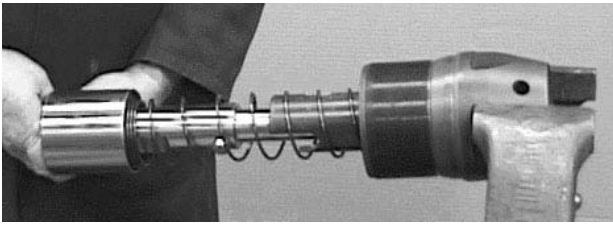

Figure 8-13. Removing Valve Stem and Spring from End Cap and Valve Guide.
- Holding the Spring (11) and Valve (7) in one hand, pull the Valve Stem (8) and its assembled components out of the Valve Guide (12). See Figure 8-13.